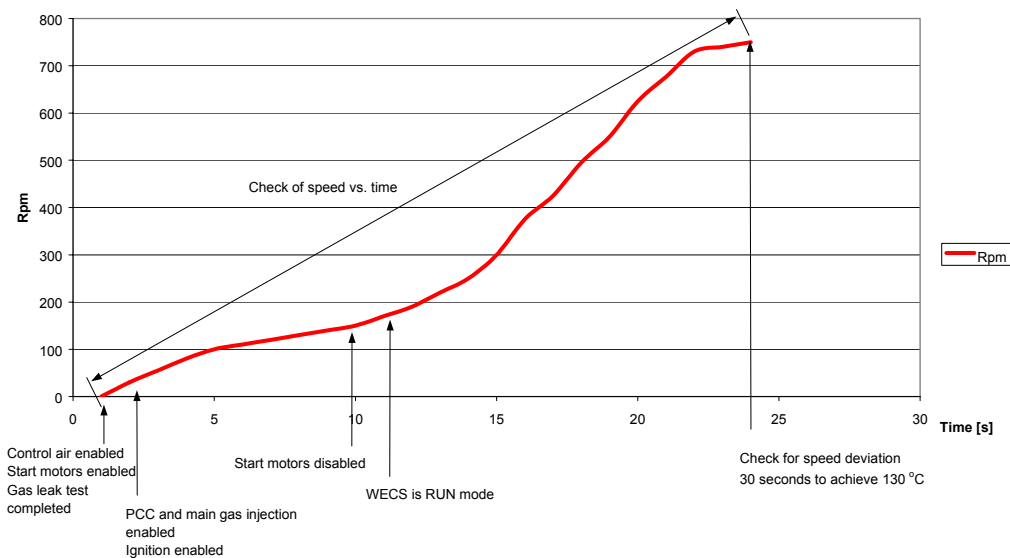

Figure 1. Start sequence (SG).
Start sequence (SG) is graphically presented in Figure 1.